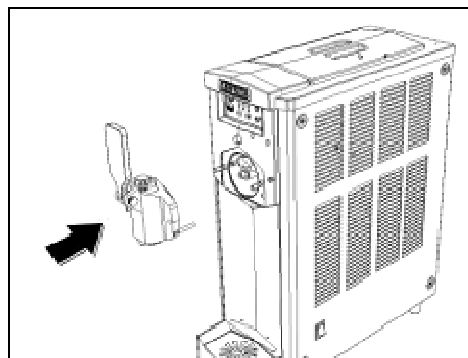

Fig. 19
- Refit the flange so that the locating pin mates with its seat (fig. 19).